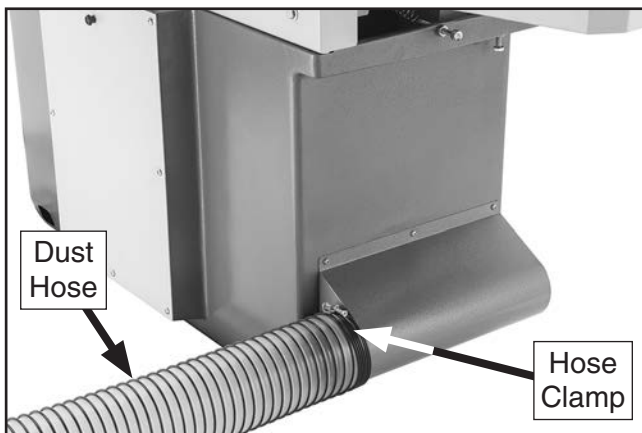

Figure 20. Dust hose attached to dust port.
1. Fit 5" dust hose over dust port, as shown in **Figure 20**, then secure it in place with hose clamp.